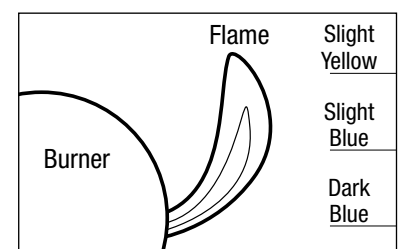

Figure 5
- After lighting, observe the burner flame. Make sure all burner ports are lit and flame height matches illustration (Figure 5).